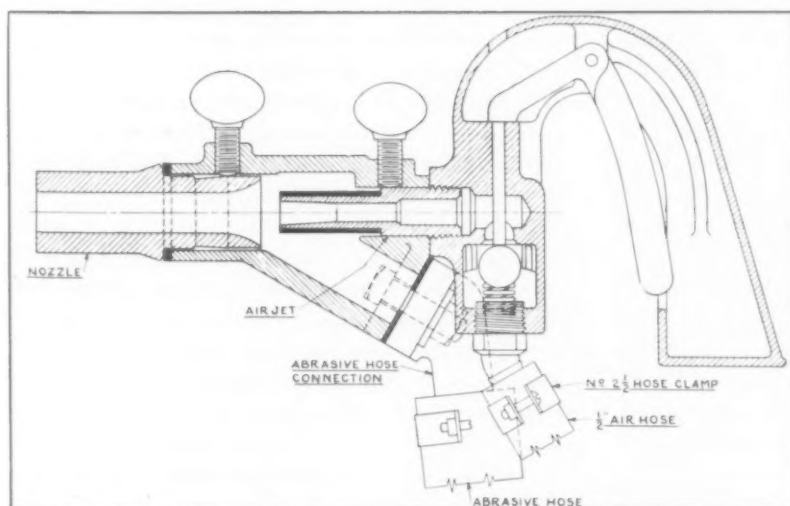

Fig. 1. Suction feed blast gun, in which compressed air passing through nozzle creates partial vacuum. Abrasive is lifted into gun and ejected at high velocity.
1. Suction Feed. The blast gun connects with two feed lines, one for compressed air and one for abrasive (see Fig. 1). This gun is very similar in principle to an ejector pump. Compressed air passing through the nozzle creates a partial vacuum, which lifts the abrasive to the gun and then drives it forward at high velocity.